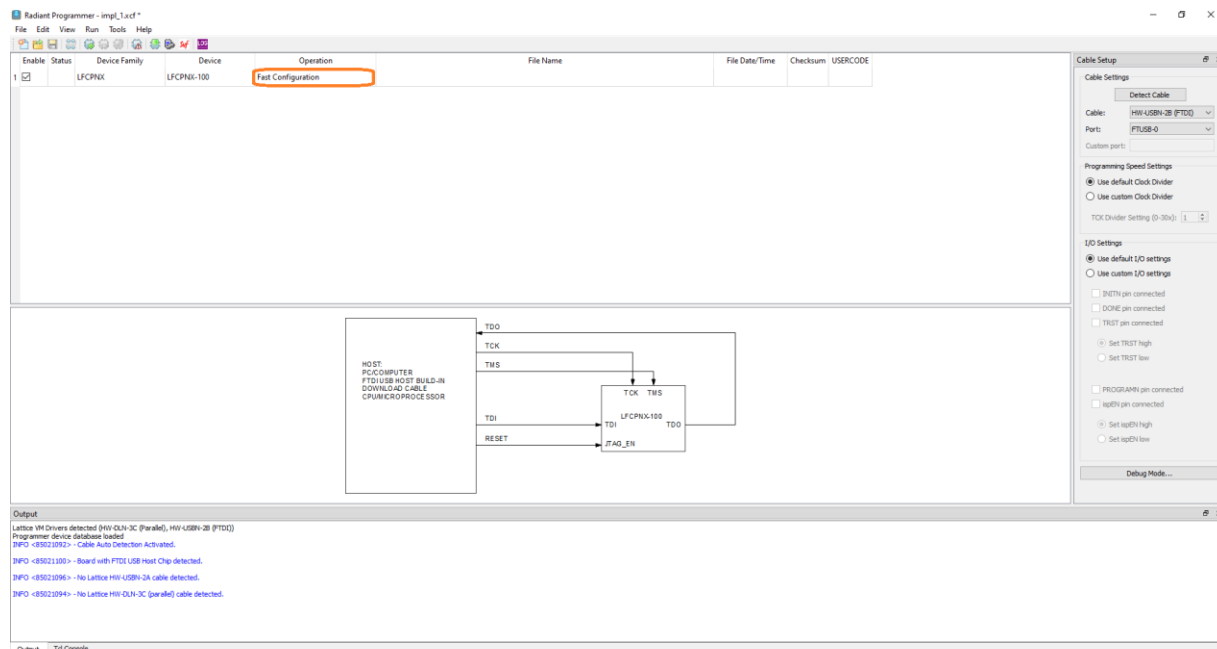

Figure 4.4. Radiant Programmer – Fast Configuration Dialog
- a. Double-click the **Fast Configuration** under the **Operation** field, as shown in Figure 4.4.